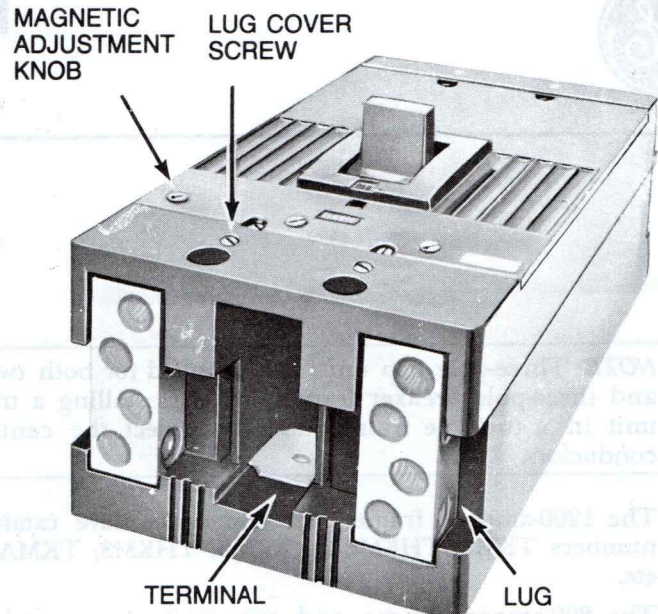

Figure 3. Installing lugs onto the breaker.
Trip Adjustment – On the type TKMA trip unit, the adjustment knobs are flush with the front of the breaker cover, as shown in Figure 3.
2. For front connection cables, insert the correct lug in place, as shown in Figure 3. Secure the lug to the terminal at the line and/or load end with the socket-head screws and washers provided. Tighten the screws to 200 lb-in minimum torque.